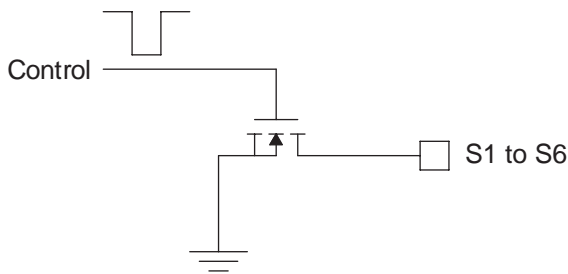
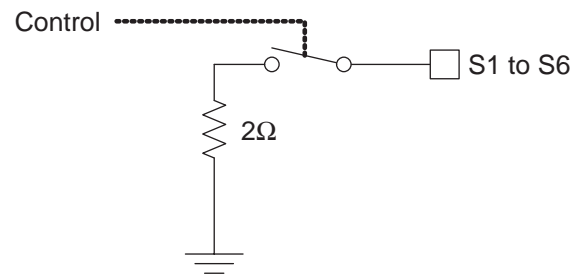

Figure 1: Switch Input Circuit.
Figure 2: Simplified Equivalent Model.
- T_{ON} is the time after latch timeout to 10% of the output voltage. See Figure 1, Timing Diagram.
Each switch input may be represented by the following circuit (Figure 1) and simplified equivalent model (Figure 2).